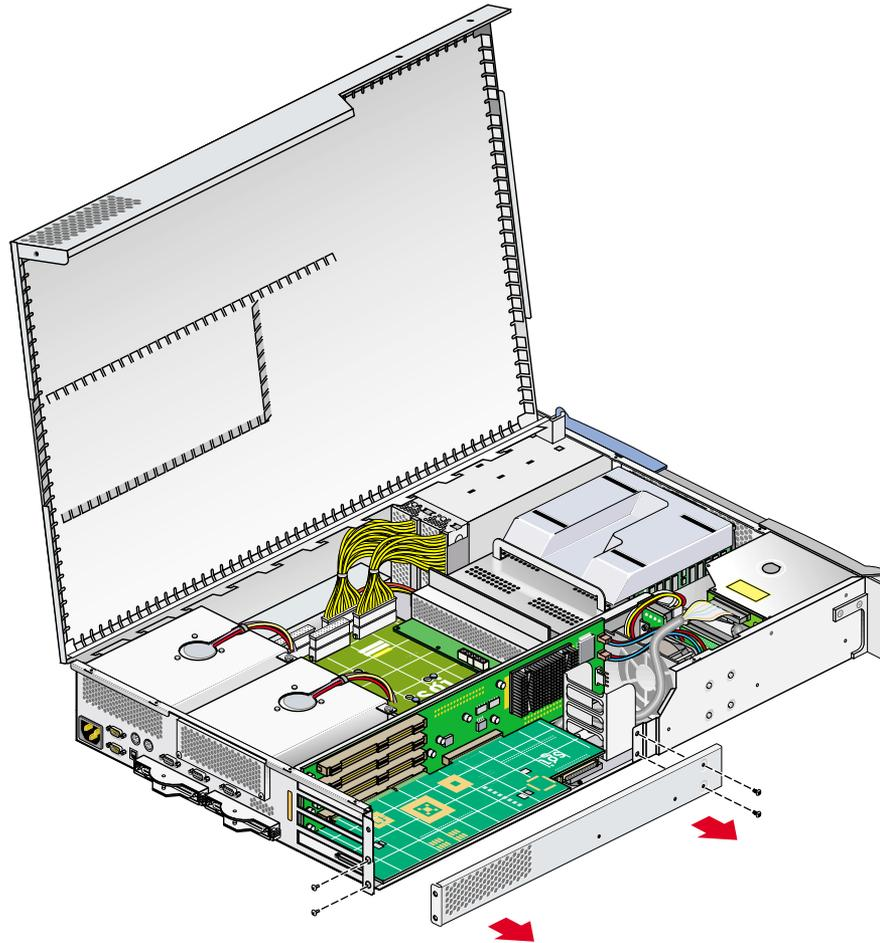

Figure 7-6 Removing the Lower PCI/PCI-X Support Bracket
5. Remove the lower PCI/PCI-X support bracket that covers the two lowermost slots, as shown in Figure 7-6, by removing the four Phillips screws.